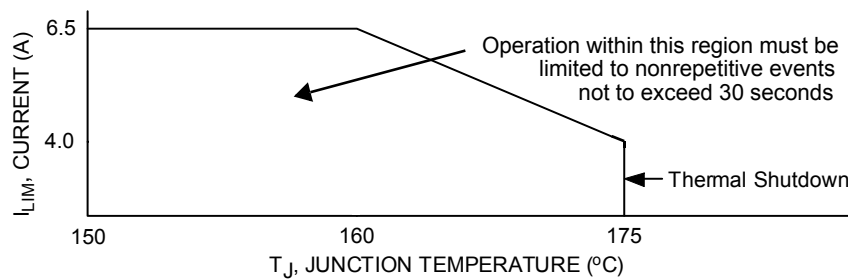
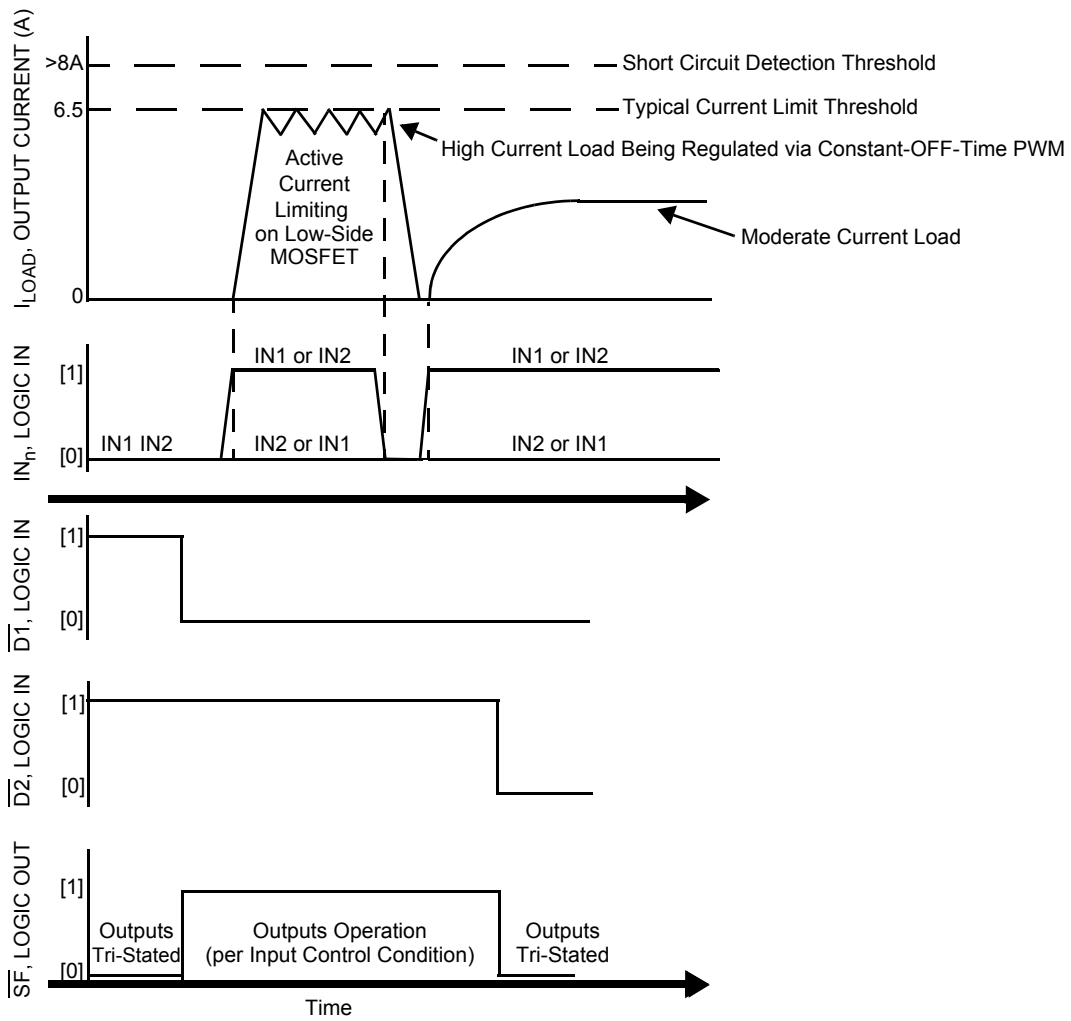

Figure 9. Active Current Limiting Versus Temperature (Typical)
Figure 10. Operating States
- 28 Load currents ramping up to the current regulation threshold become limited at the  $I_{\text{LIM}}$  value. The short circuit currents possess a di/dt that ramps up to the  $I_{\text{SCH}}$  or  $I_{\text{SCL}}$  threshold during the  $I_{\text{LIM}}$  blanking time, registering as a short circuit event detection and causing the shutdown circuitry to force the output into an immediate tri-state latch-OFF. See Figures 10 and 11, page 13. Operation in Current Limit mode may cause junction temperatures to rise. Junction temperatures above  $\sim 160^\circ\text{C}$  will cause the output current limit threshold to progressively “fold back”, or decrease with temperature, until  $\sim 175^\circ\text{C}$  is reached, after which the  $T_{\text{LIM}}$  thermal latch-OFF will occur. Permissible operation within this fold-back region is limited to nonrepetitive transient events of duration not to exceed 30 seconds. See Figure 9, page 12.
and overtemperature shutdown occurs (see Figure 9, page 12). This feature allows the device to remain operational for a longer time but at a regressing output performance level at junction temperatures above  $160^\circ\text{C}$ .